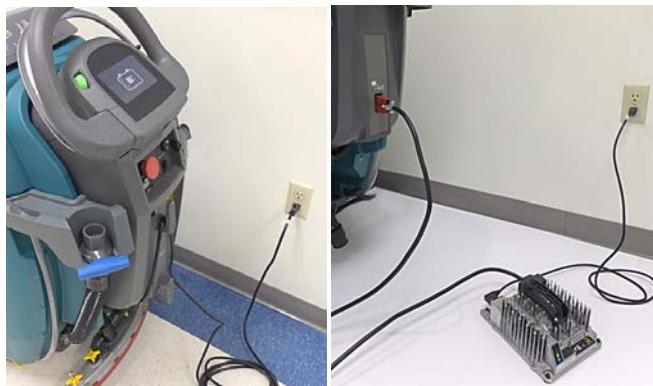

FIG. 108
- 13. Charge batteries (Figure 108). See BATTERIES.